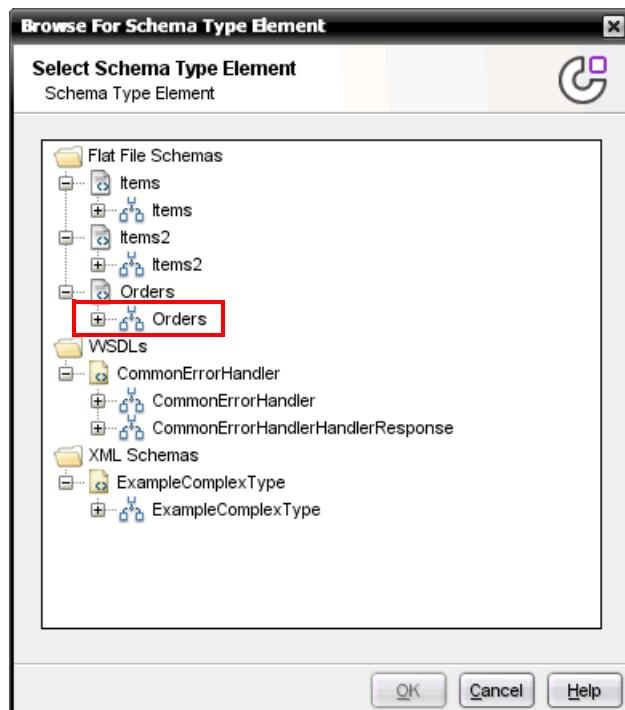

Figure 3-97 The *Browse For Schema Type Element* window
4. Add input and output complex data types to the mapping editor by clicking either **Select Inputs** or **Select Outputs**. The **Browse For Schema Type Element** window shown in Figure 3-97 opens. Select a record node, and then click **OK**. An example of a record node is highlighted in the figure.